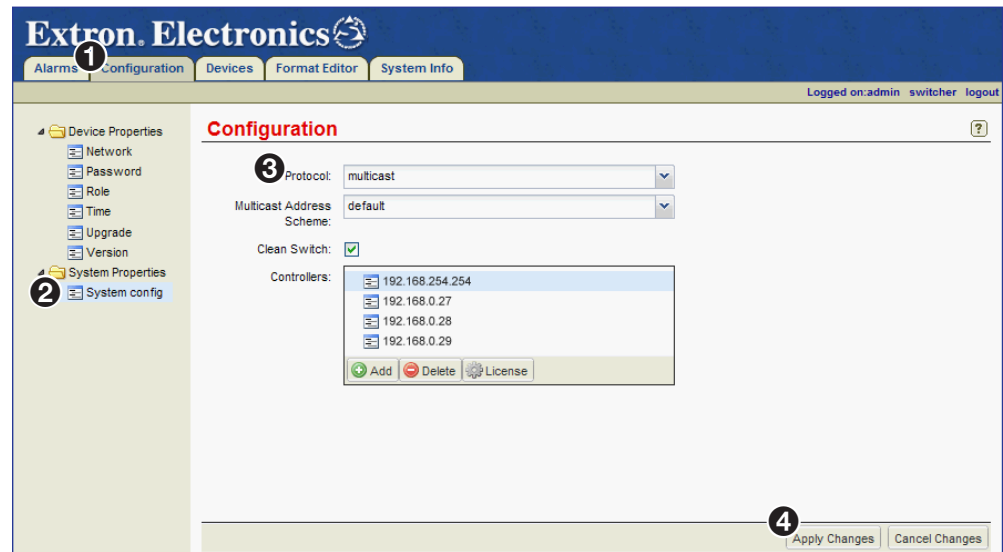

Figure 13. Configuration Page — Configuring the Transport Protocol
The **Configuration** page opens (see figure 13, ❶).